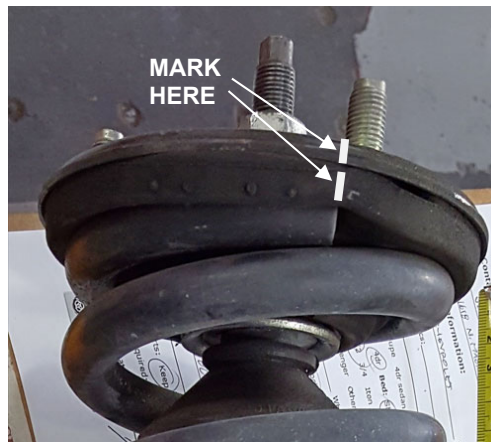

Figure 2
- C. Also note the clocking of the coil spring relative to the upper mount. Mark the top mount plate and spring isolator as shown in Figure 2 to indicate the position of the end of the top coil relative to the studs on the top mount plate (important for reassembly).